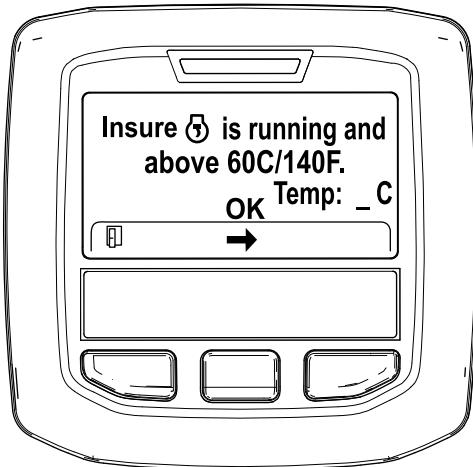

Figure 47
- If the coolant temperature is below 60°C (140°F) the “Insure is running and above 60C/140F” message displays. (Figure 47).